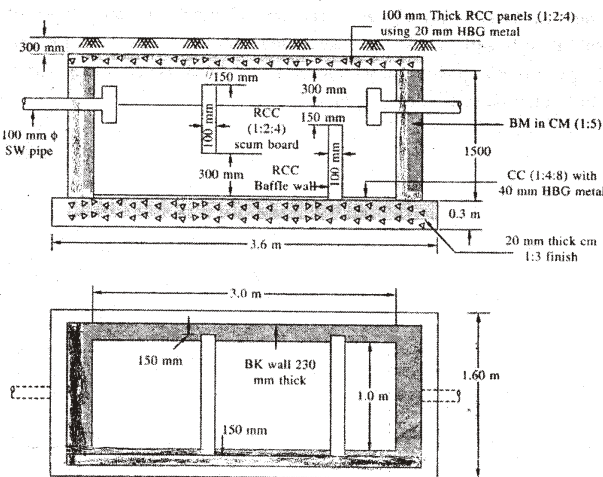

Fig. 7
17. Prepare the detailed estimate of the following items of septic shown in Fig. 7.